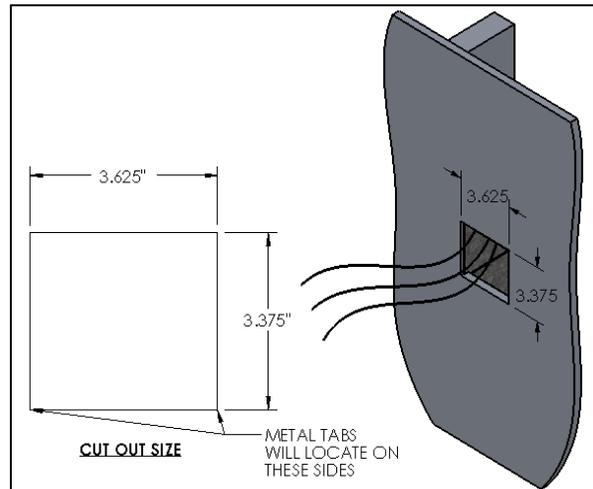

FIG. 13- J-BOX ASSEMBLY AND WALL CUT OUT
- Attach the desired wall (ceiling) covering and finish accordingly as shown in FIG. 13.